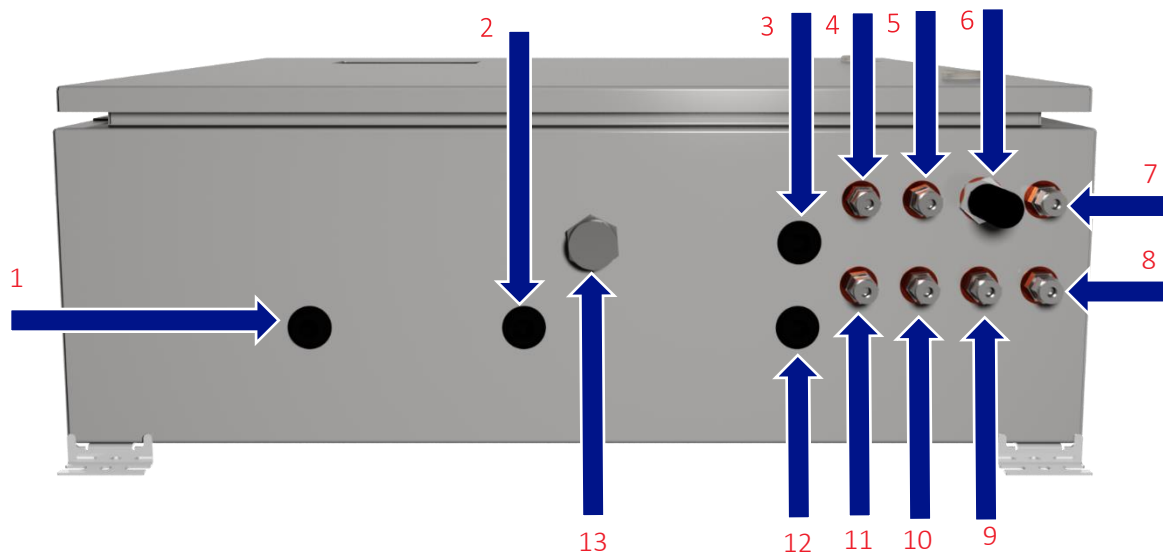

Figure 4 - BIOGAS 3000 customer connections
- Compression fittings – found on the bulkheads on the enclosure base (see annotations 4, 5, and 7-11 on Figure 4 - BIOGAS 3000 customer connections)
There is an enclosure breather fitted to the BIOGAS 3000 situated at the base of the enclosure (see annotation 13 on Figure 4 - BIOGAS 3000 customer connections). It is the user's responsibility to ensure that there is a free circulation of air around the cabinet.
Figure 4 - BIOGAS 3000 customer connections identifies the available connection points on the BIOGAS 3000:
- The sample tube should be connected to the bulkhead connectors labelled 'SAMPLE GAS 1', 'SAMPLE GAS 2', 'SAMPLE GAS 3', and 'SAMPLE GAS 4' where applicable – see annotations 4, 5, 10, and 11 on Figure 4 - BIOGAS 3000 customer connections.
- The gas exhaust line should be connected to the bulkhead connector labelled 'PROCESS RETURN' – see annotation 7 on Figure 4 - BIOGAS 3000 customer connections.
If uncontaminated air cannot be guaranteed at the location of the analyzer, the particulate filter should be removed and a pipe should be connected in its place and terminated at a point where uncontaminated air is present. The sample tube should be connected to the bulkhead connector labelled 'AIR IN' – see annotations 6 on Figure 4 - BIOGAS 3000 customer connections.
- The sample tube should be connected to the bulkhead connector labelled 'VENT TO ATMOSPHERE' – see annotation 9 on Figure 4 - BIOGAS 3000 customer connections.
- The drain line should be connected to the bulkhead connector labelled 'DRAIN' – see annotation 8 on Figure 4 - BIOGAS 3000 customer connections.